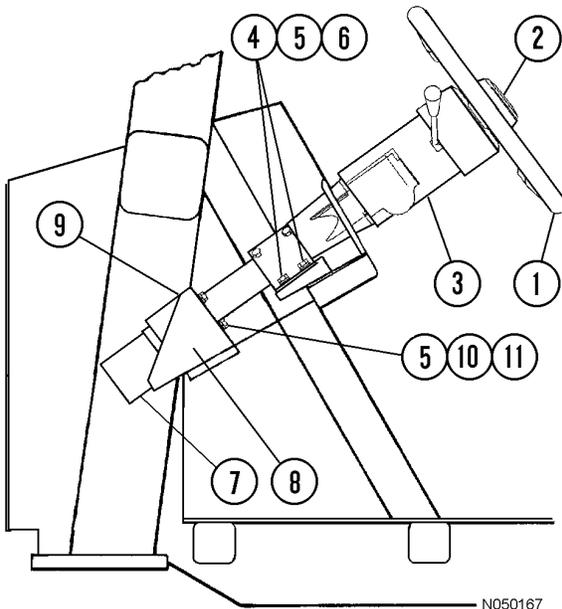

FIGURE 5-1. STEERING CONTROL VALVE INSTALLATION
3. Remove capscrews (10, Figure 5-1) from steering unit mounting bracket and remove steering control unit (7).